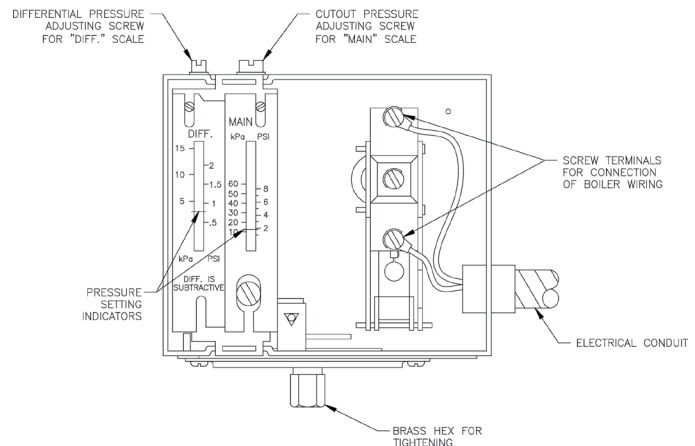

Figure 16: L404F Pressure Limit Control
- a. Install pressure limit control into Tapping "H" with siphon, $\frac{3}{4}$ " x $\frac{1}{4}$ " hex bushing, $\frac{3}{4}$ " elbow and $\frac{3}{4}$ " x 3" nipple provided. See Figures 1 and 2. **DO NOT TWIST CONTROL.** Use wrench on hex fitting located at bottom of control. See Figure 16.
- b. The L404F pressure limit employs a snap action switch and does not require leveling. See Figure 16.
- c. The L404F pressure limit employs a snap action switch and does not require leveling. See Figure 16.
1. Screw the pressure limit/control onto the syphon. **DO NOT TWIST CONTROL.** Use wrench on hex fitting at bottom of control. See Figure 16.
3. Open the control's clear cover and attach the two (2) wires in the conduit to the two (2) unused screw terminals.